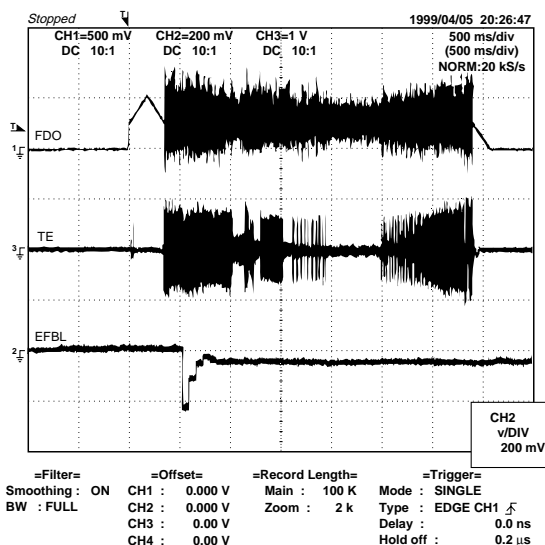

Figure 14-2
- Tracking balance adjustment (waveform drawing Fig. 14-2 EFBL)